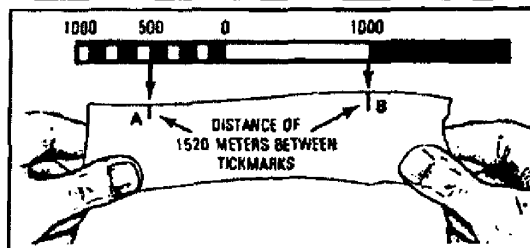

Figure C-29. Determining distance
- (3) Match the marks on the paper with the appropriate bar scale (figure C-29).